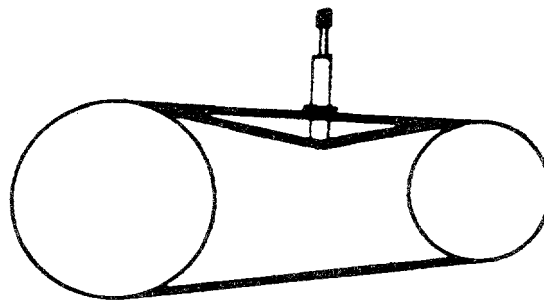

Fig 4
- Place the tensiometer in the middle of the free strand on which the measurement is to be taken (perpendicular to the strand : see figure 4)